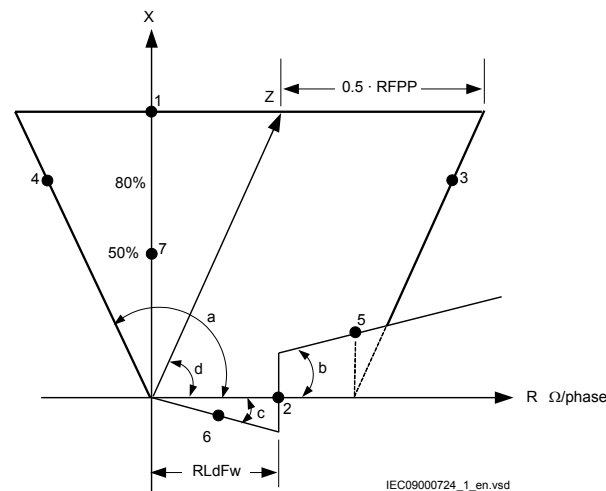

Figure 8: Distance protection characteristic with test points for phase-to-phase measurements
settings with the shaped load encroachment characteristic the test should be carried out according to figures 8 and 9 and tables 7 and 8.
Table 7 is used in conjunction with figure 8.
2. Apply the fault condition and slowly decrease the measured impedance to find the operating value of the phase-to-phase fault L1-L2 for zone 1 according to test point 1 in figure 8 and table 7. Compare the result of the measurement with the set value.
2. Apply the fault condition to find the operating time for the phase-to-phase fault according to test point 7 in figure 8 and table 7 for zone 1. Compare the result of the measurement with the setting $tIPP$.